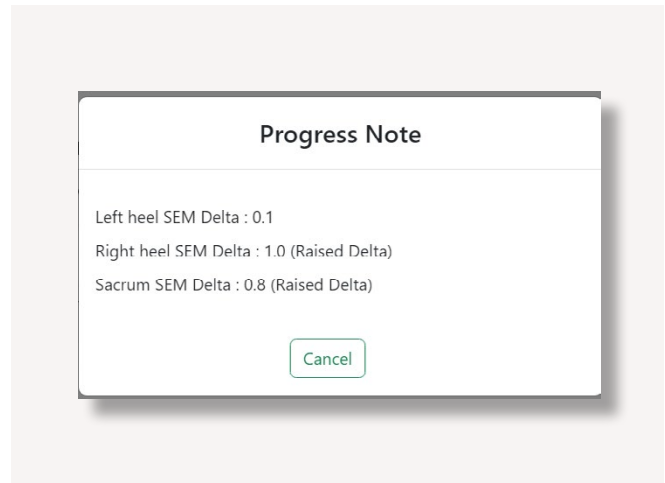

Figure 7
1. As **Progress Notes**, which are received as ONE note with three SEM delta (Δ) values in text format (Figure 7), or
It is important to note that a raised delta (Δ) value will be identified with a "Raised Delta" note after the delta value (see Figure 7). This means that the anatomical location is at increased risk of pressure injury and preventive interventions should be considered or altered.
Figure 7 shows an example of how SEM delta (Δ) values* will appear as a Progress Note - note that "Raised Delta" values are clearly marked. This means that the anatomical location is at increased risk of pressure injury and preventive interventions should be considered or altered.